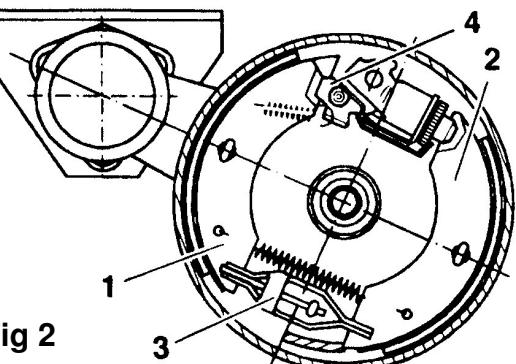

Fig 2
The overrun device can be described as the control device of the overrun brake system. A draw-bar force is produced at the coupling point by reducing the speed of the towing vehicle. After the threshold level has been passed, the draw shaft is pushed in, thus actuating the overrun lever, the wheel brakes (1 & 2) are then applied via the expanding clutch (3) (Fig 2)